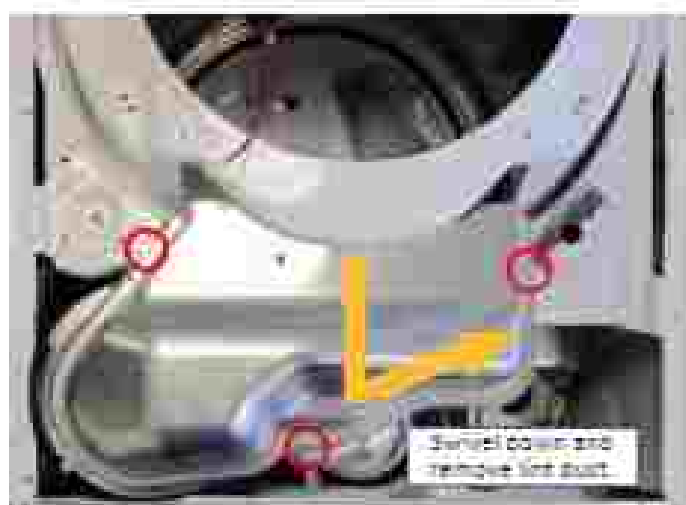

Figure 1 - Remove lint duct screws
4. Remove the three (3) 1/4" hex-head screws from the lint duct as illustrated in Figure 1. Swing the lint duct down and remove.